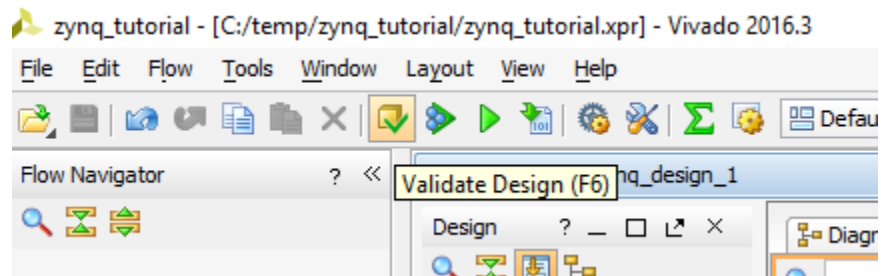

Figure 17: Validating the design.
4. From the toolbar, run Design Rules Check by clicking the **Validate Design** button (Figure 17). Alternatively, you can select Tools → Validate Design from the menu, or you can right-click in the workspace and select **Validate Design**.